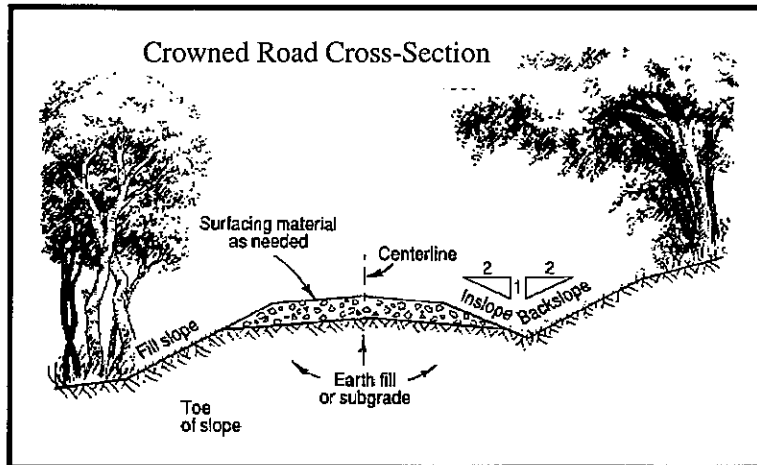

Figure ROAD-2
- ☐ **Choices regarding road construction standards** and maintenance activities will be influenced by site characteristics and the value of the resources served. Culverts and ditches may be necessary with any road construction technique. See Figure ROAD-2.